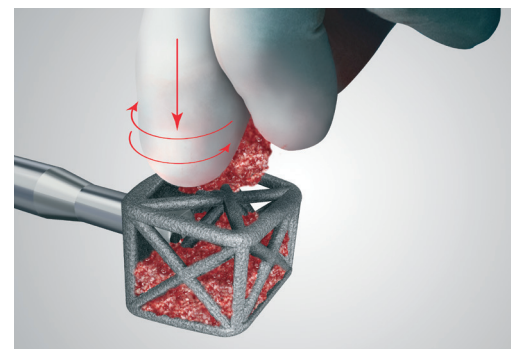

Figure 5
- ▲ Pack the CSTS implant with autologous and/ or allogenic bone graft. For best results, cut or morselize the bone graft into 1-2mm sized particles. Place the morselized bone into the top or bottom web structure (top and bottom are interchangeable). In a downward, circular motion, massage the graft material into the implant (Fig. 5).